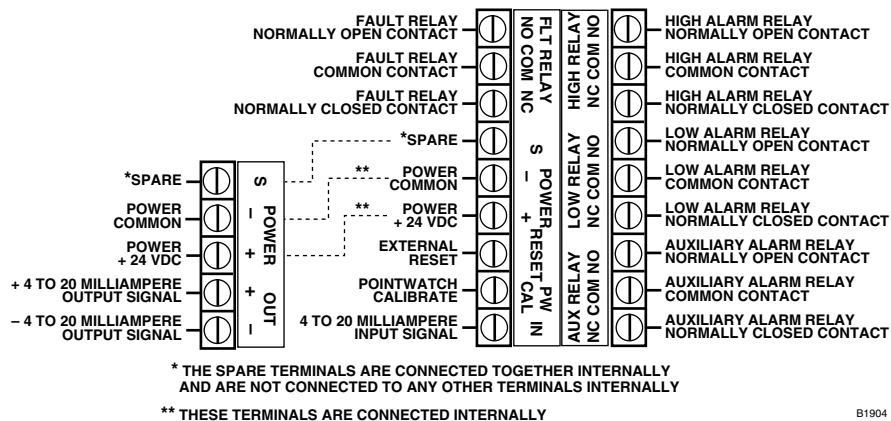

Figure 5—Field Wiring Terminals, Transmitter with Relays
- Figure 5 — Infiniti Field Wiring Terminal with Relay Option
8. See Figures 5 and 6 for field wiring terminal designation.